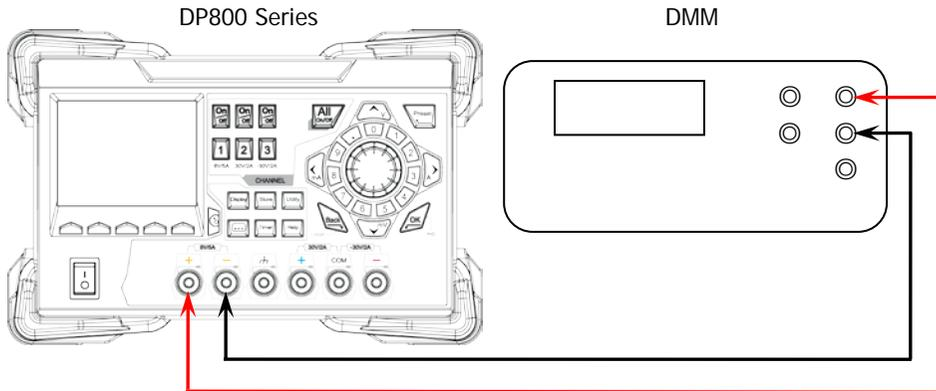

Figure 2-2 Connect DP800 and the Digital Multimeter (Voltage)
1. Make sure that DP800 has been warmed up for at least 30 minutes. Connect the channel output terminals (take CH1 as an example; the calibration method is also applicable to CH2 and CH3) of DP800 with the voltage input terminals of the digital multimeter using the test leads as shown in Figure 2-2.